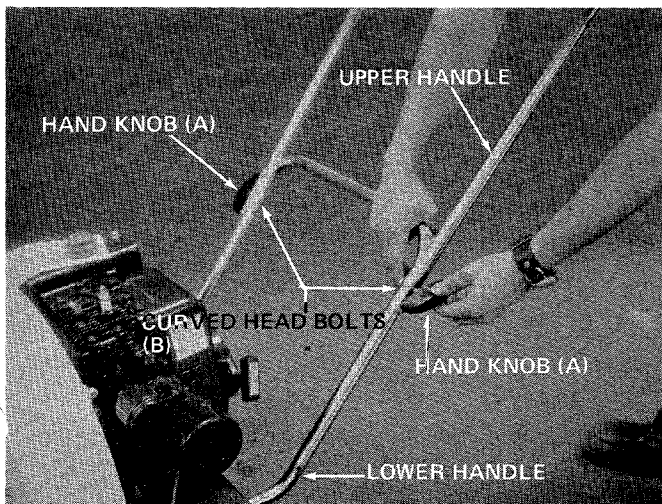

FIGURE 4
- Place the upper handle over the lower handle, line up holes and secure with curved head bolts (B) and hand knobs (A). See figure 4.